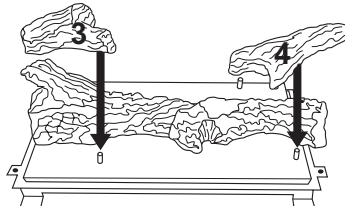

Figure 40 - Installing Logs No. 3 and No. 4
3. Place logs #3 (left front log) and log #4 (right front log) onto pins as shown in Figure 40.